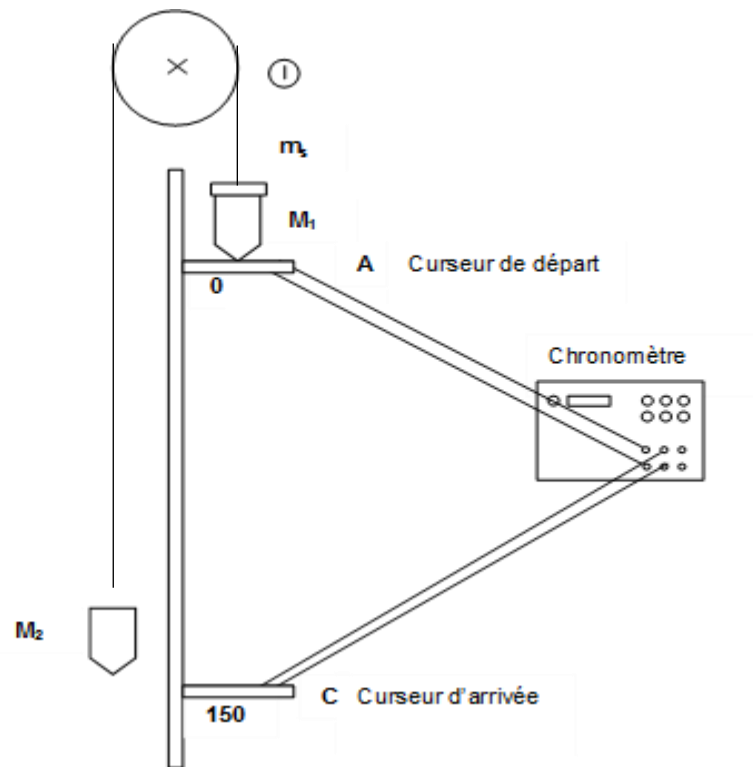

Figure 1: Atwood's machine setup
- Vertical graduated rod with two cursors (Figure 1).